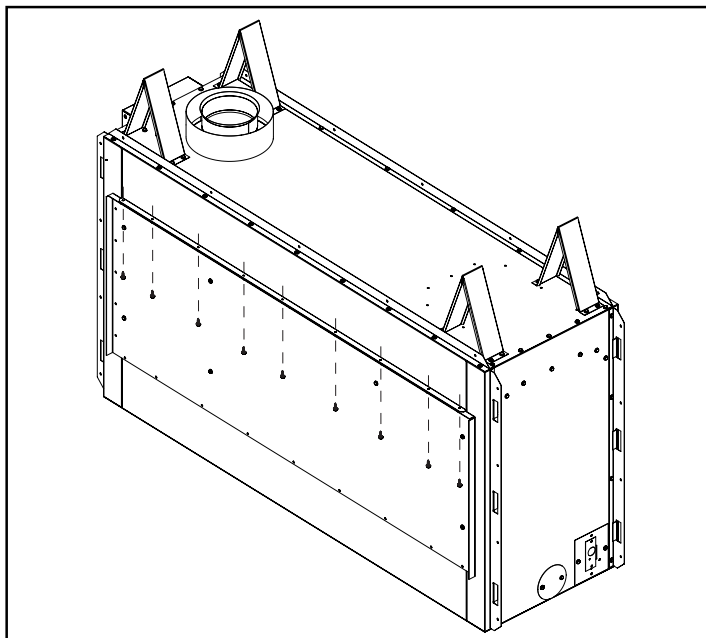

Figure 38 - Removing Rear Panel for See-Through Applications
1. In the rear of the fireplace, locate screws at top of rear panel and remove as shown in Figure 38. Discard screws and rear panel.